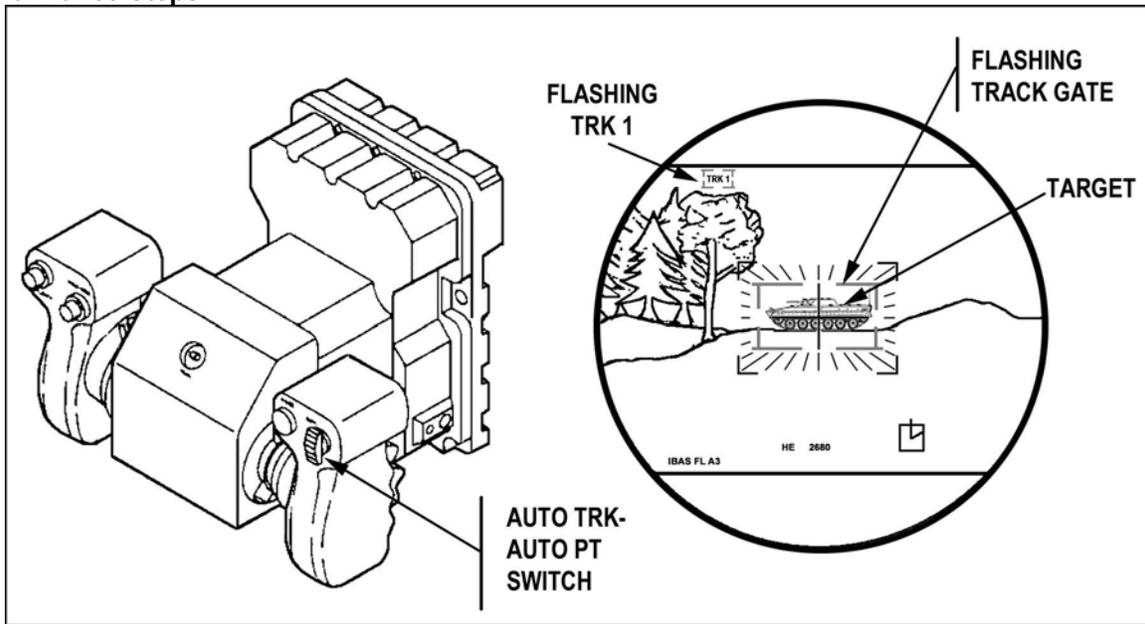

Figure 14. AUTO TRK_AUTO PT switch.
- (1) Rotate the GHS left or right and forward or backward until the target is in the center of the reticle.
- (2) Repeat step (1) as needed to center the reticle on target.
- b. Establish a track gate around a target (Figure 14).